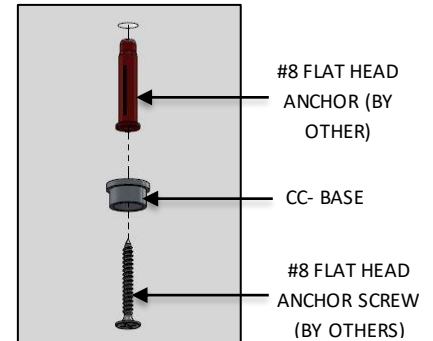

FIG. 7- HARD CEILING INSTALLATION
3. Install the CC-BASE to the #8 FLAT HEAD ANCHOR (by others) previously installed at the non-powered mounting location and secure with the #8 FLAT HEAD ANCHOR SCREW (by others) as shown in FIG. 7.